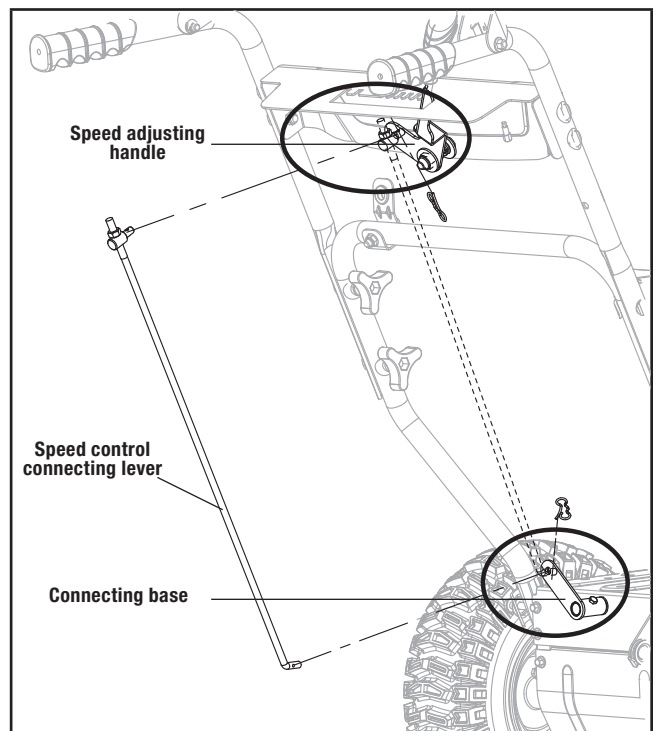
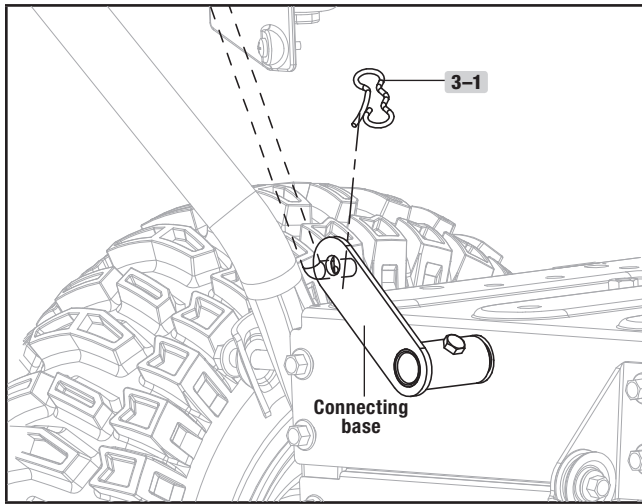

Figure 6A
Figure 6B
1. Connect the connecting lever (Fig. 6A) and connecting base with cotter pin (3-1) (Fig. 6B).